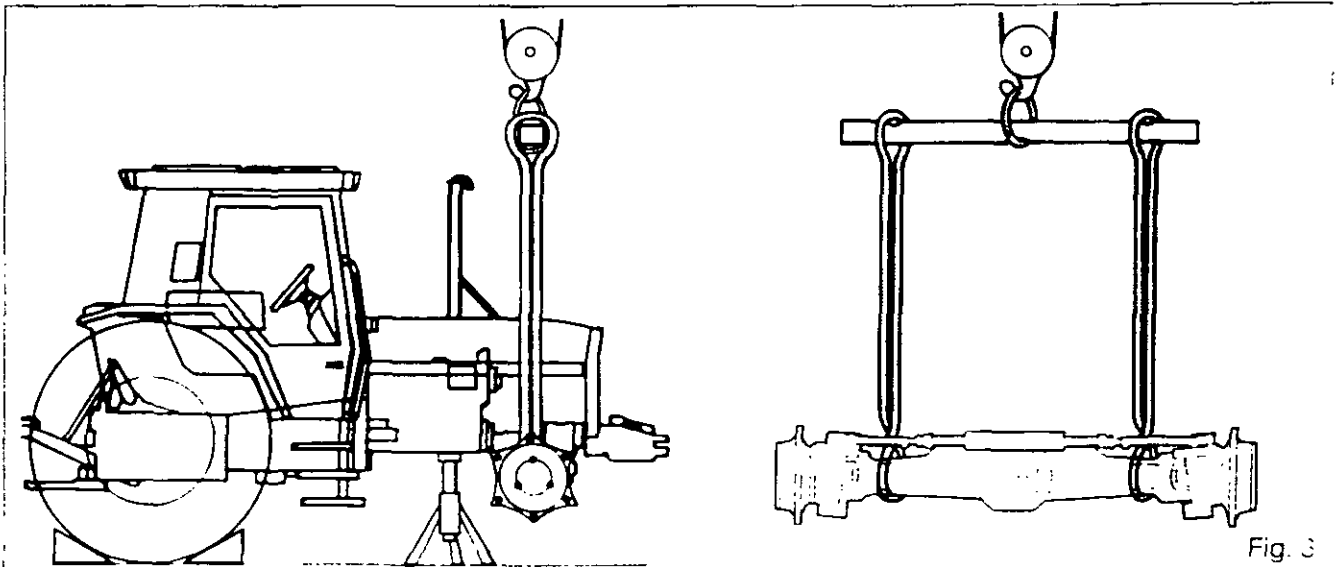

Fig. 3
4. Raise the tractor with a jack positioned under the axis of the axle housing. Place a stand (Fig. 3) under the lower engine housing. Remove the wheels.
6. Place the front axle in slings (Fig. 3).